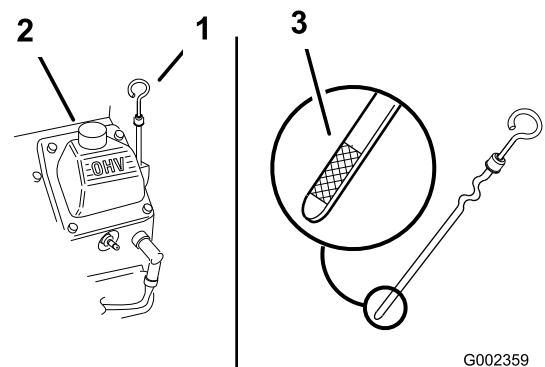

Figure 17
2. Clean around the oil dipstick (Figure 17) so dirt cannot fall into the filler hole and damage the engine.
3. Remove the dipstick, wipe it clean, and install until it is fully seated (Figure 17).
The oil level should be up to the Full mark on the metal end of the dipstick (Figure 17).
5. If the oil level is below the Full mark, remove the filler tube cap (Figure 17) and add oil until the level reaches the Full mark on the dipstick. **Do not overfill.**